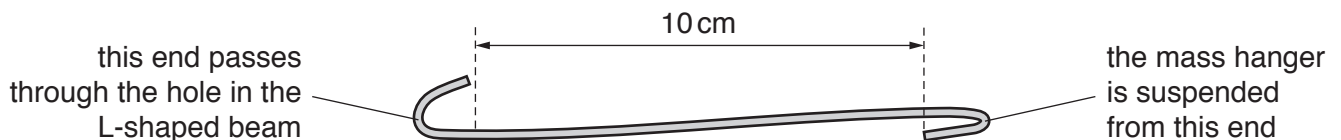

Fig. 2.3
3. Wire hooks are used to suspend masses at hole A and hole B. A suitable hook shape may be made from a large steel paper clip, but the hooked ends must be at least 10 cm apart as shown in Fig. 2.3.